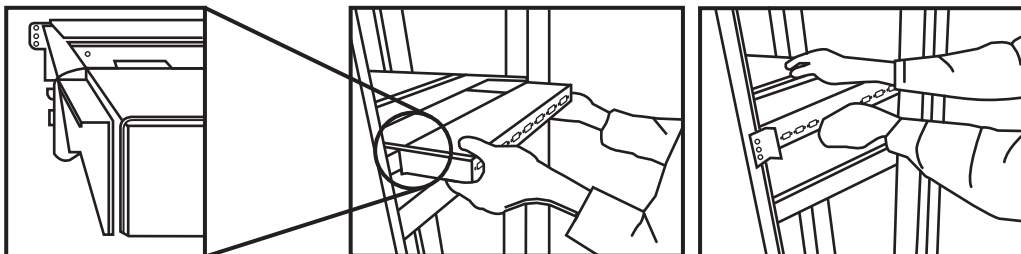

Figure 3-9. Pushing the module towards the drawer.
6. Push the KVM switch module evenly towards the drawer. See Figure 3-9.